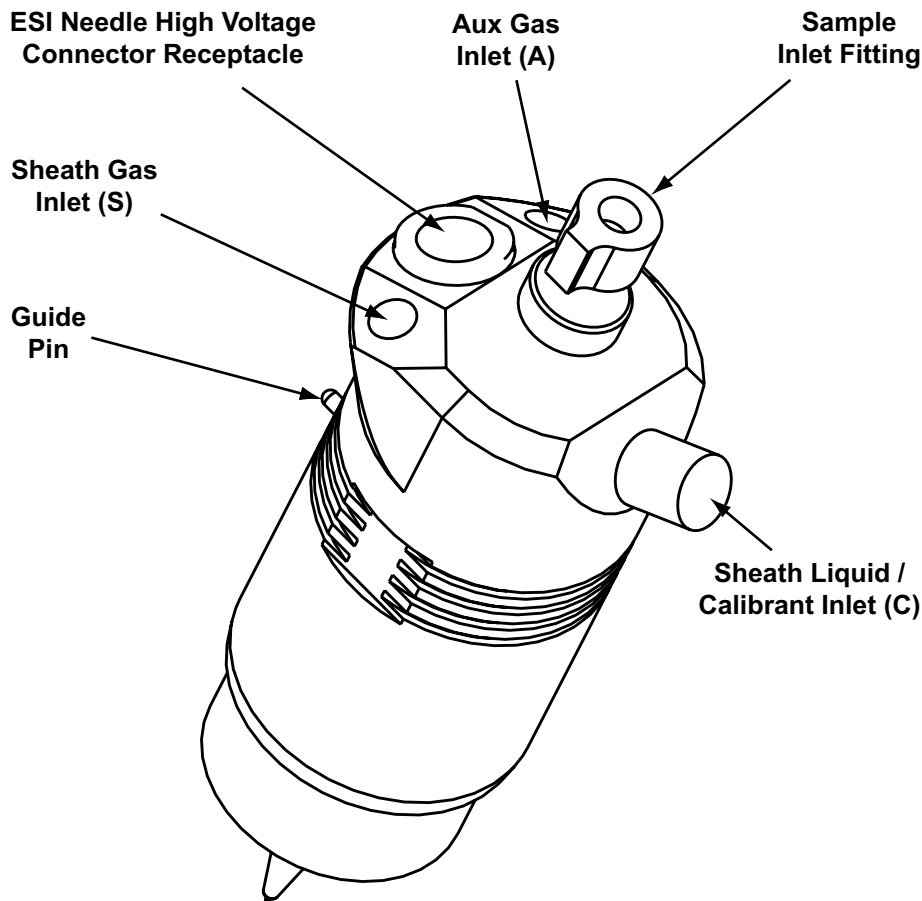

Figure 2-11. ESI probe, side view
3. Insert the ESI probe into the port in the ion source housing, align the guide pin on the probe body at a minus 45 degree angle from the ESI interlock block. See Figure 2-11.